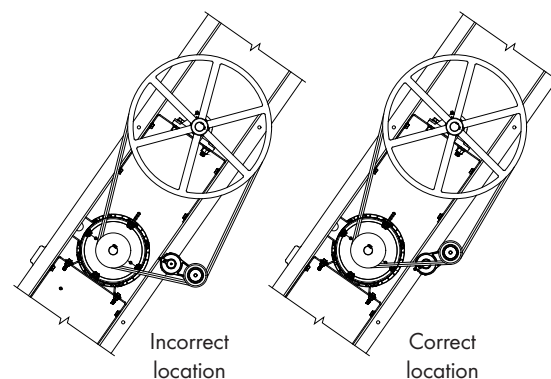

Figure 20A
- 8) **BELT TENSIONING:** Check condition of belt, if worn, replace belt. If belt is in good condition then make sure the tensioner is in the correct position. Looking from the inlet of the fan, the correct position of the tensioner is approximately the 2 o'clock position. See Figure 20A.